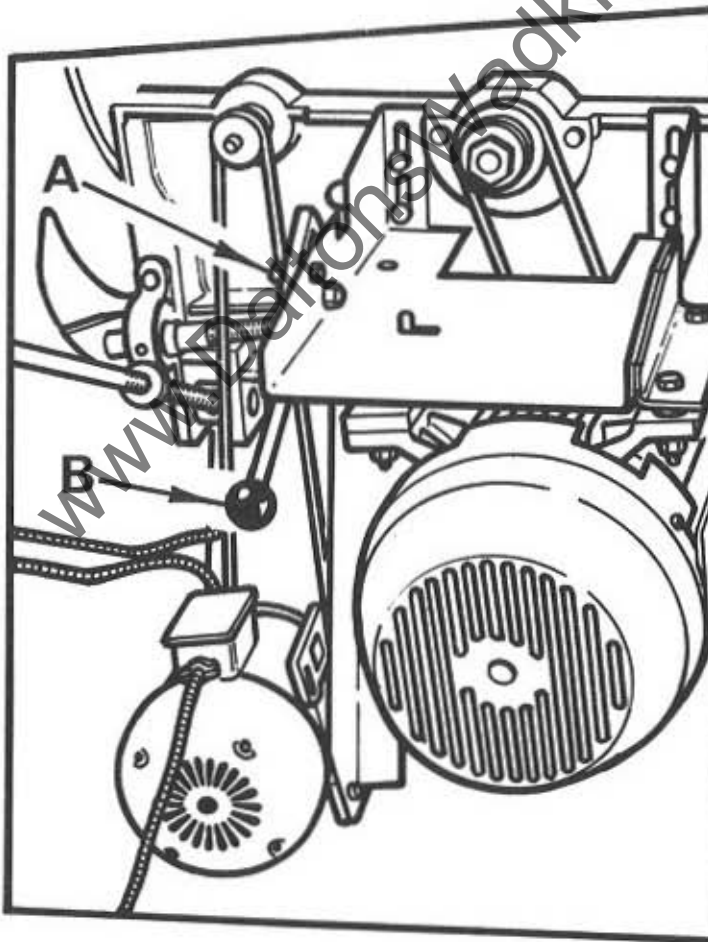

FIG 27
3. Loosen aerotight nut "A" in FIG 27 and move handle "B" to release belt tension. Hold motor in this position and securely re-tighten nut "A".
5. When belt has been changed, hold handle "B" in FIG 27 and loosen aerotight nut "A" then pull handle "B" to apply tension to belts.